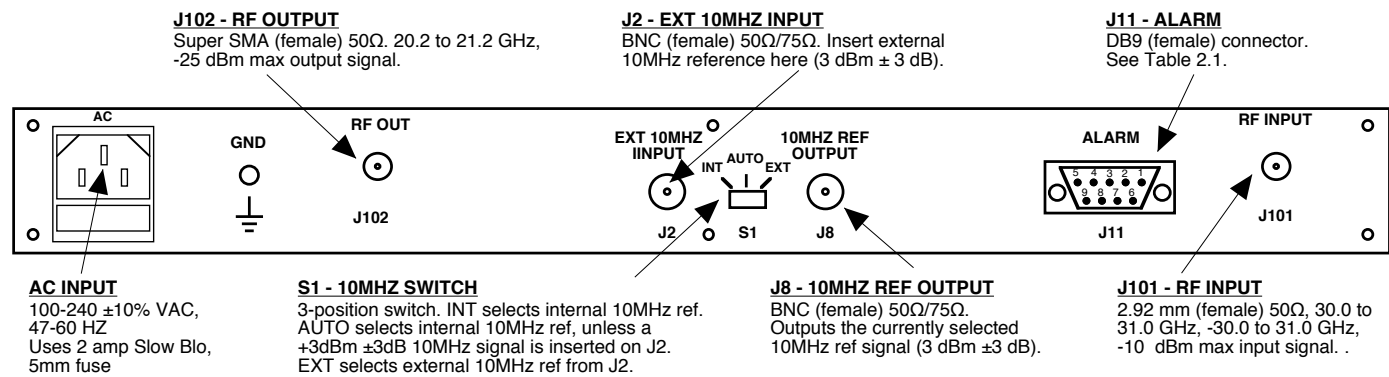

FIGURE 2.1 2116-31T21-15 Rear Panel I/O's
Figure 2.1 shows the input and output connectors on the rear panel.
1. Connect a -30 dBm to -10 dBm (30.0 to 31.2) GHz signal to RF INPUT (J101) (Figure 2.1).
5. Select either INT. (for internal 10MHz ref), AUTO (for internal 10MHz ref UNLESS an external 10MHz, 3 dBm signal is connected to J2), or EXT (for external 10MHz, 3 dBm ref that is inserted at J2) using the rear panel 3-way switch, S1 (Figure 2.1).
7. Check that a 10MHz, 3 dBm $\pm$ 3 dB signal is present at the 10MHZ REF OUTPUT (J8) (Figure 2.1).